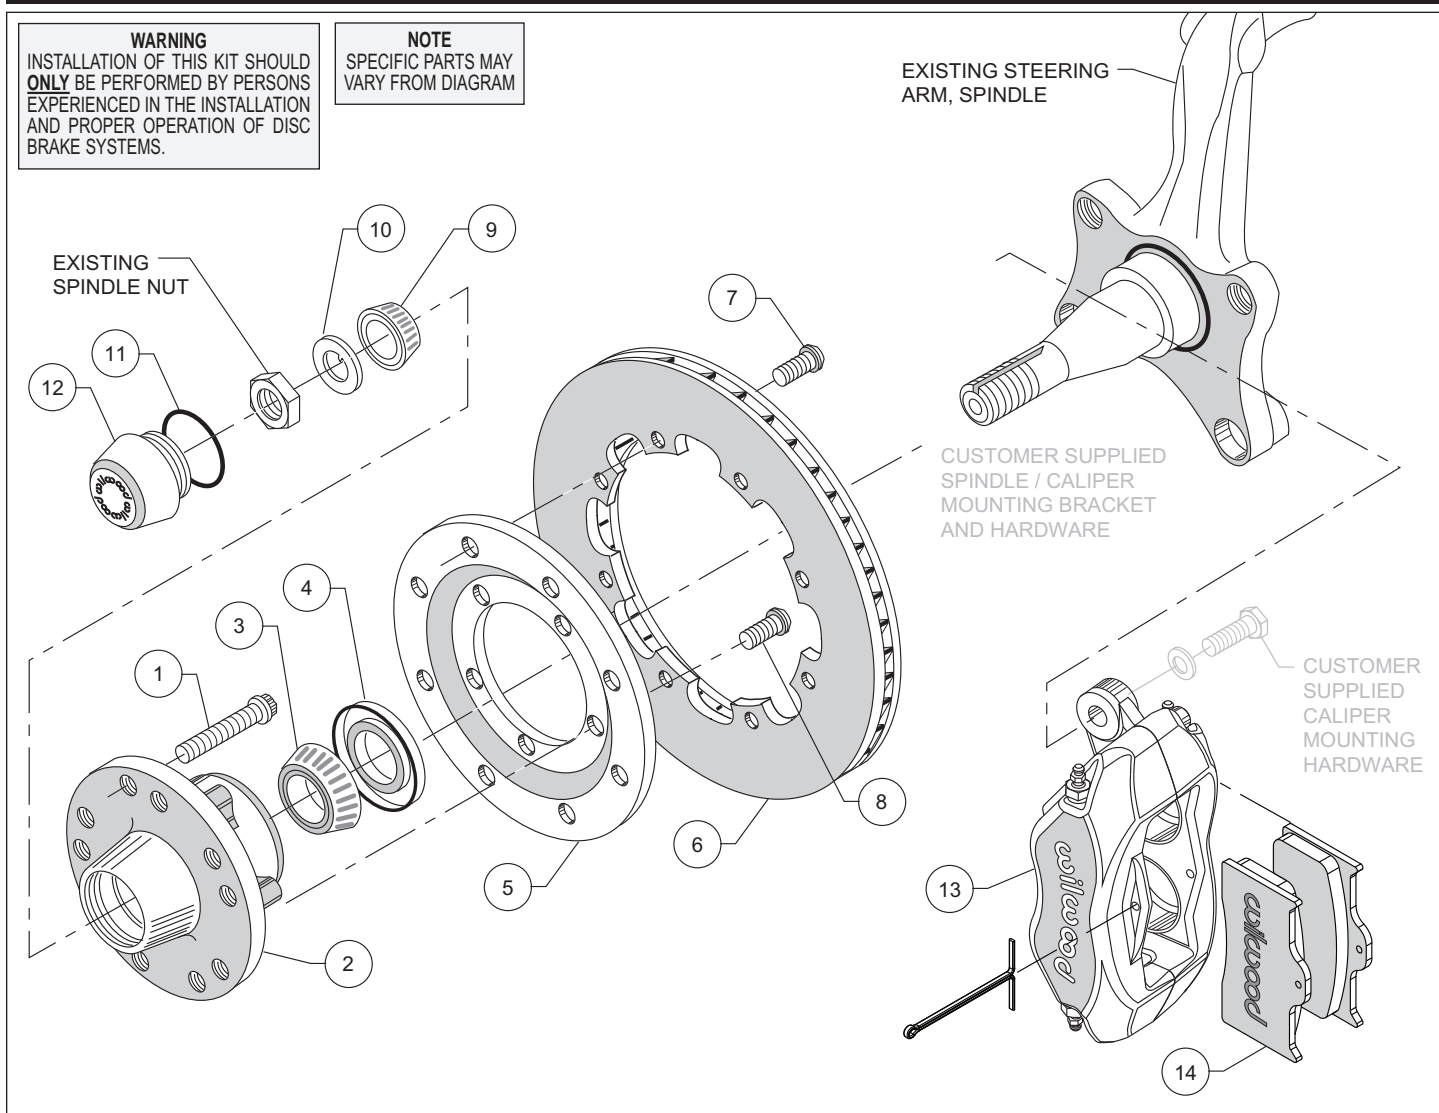

Figure 1. Typical Installation Configuration
Assembly Instructions (numbers in parenthesis refer to the parts list on the preceding page, and Figure 1):
- Install the grease seal (4) by pressing into the backside of the hub (2), flush with the end of the hub, Photo 2.
- Orient the rotor (6) and the rotor adapter (5) as shown in Figure 1 and Photo 3. Attach the rotor to the adapter using bolts (7). Using an alternating sequence, apply red *Loctite*® 271 to the threads, and torque to 25 ft-lb.
- Mount the adapter/rotor assembly (5/6) to the hub (2) using bolts (8), as shown in Figure 1 and Photo 4. Using an alternating sequence, apply red *Loctite*® 271 to the threads, and torque to 55 ft-lb.
- Mount the caliper (13) onto the customer supplied caliper bracket using customer supplied hardware. Temporarily tighten mount bolts. View the rotor (6) through the top of the caliper (13). The rotor should be centered in the caliper, Photo 7. If not, adjust by adding or subtracting customer supplied shims between the bracket and the caliper. Always use the same amount of shims on each of the two mounting bolts. Once the caliper alignment is correct, remove the bolts one at a time, apply red *Loctite*® 271 to bolt threads, and torque to bracket manufacturer's specification.
- Insert the brake pads (14) into the caliper with the friction material facing the rotor (6), as shown in Figure 1 and Photo 8. Secure the pads in place using the cotter pin, Photo 8.